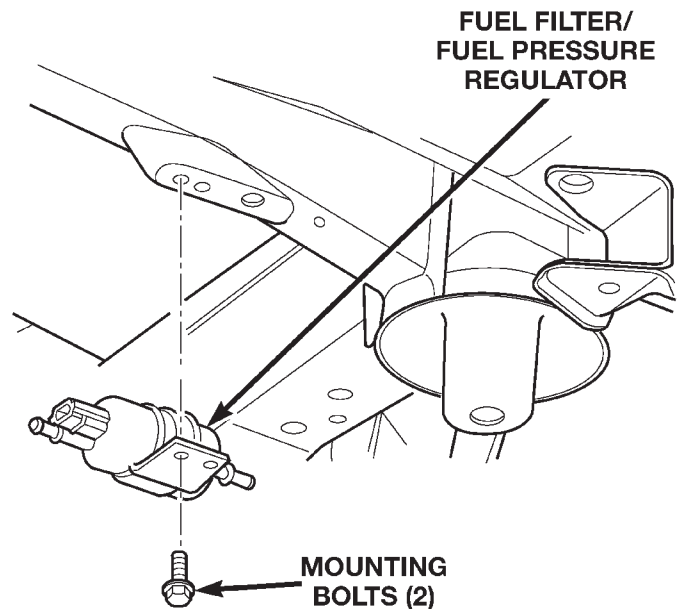

Fig. 25 Fuel Filter/Fuel Pressure Regulator Removal/Installation
- (6) Remove 2 mounting bolts (Fig. 25) and remove filter/regulator.